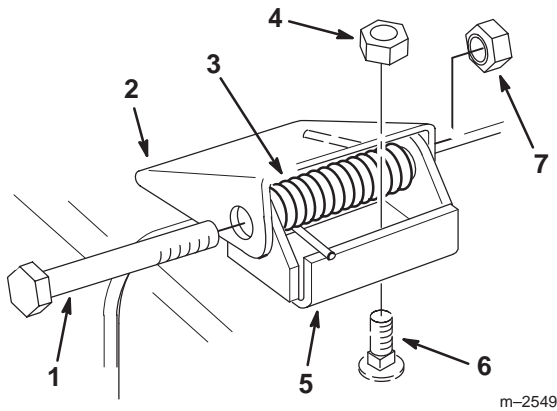

Figure 36
- Remove the locknuts, bolts and springs holding the deflector mounts to the pivot brackets (Fig. 36).
- If the pivot brackets need to be replaced, remove the carriage bolts and cone locknuts holding the old brackets to the top of the discharge opening, then install the replacement pivot brackets. Make sure the carriage bolt heads are on the inside of the cutting unit (Fig. 36).
- Install the deflector mounts between the pivot brackets with the bolts, springs and locknuts. Make sure the straight ends of the springs are positioned between the deflector mounts and the grass deflector (Fig. 36).
- Tighten the locknuts until they contact the pivot brackets (Fig. 36).